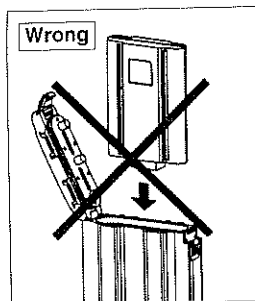

Figure 5
- Do not drop the battery into the battery module, as shown in Figure 5. That may damage the battery.